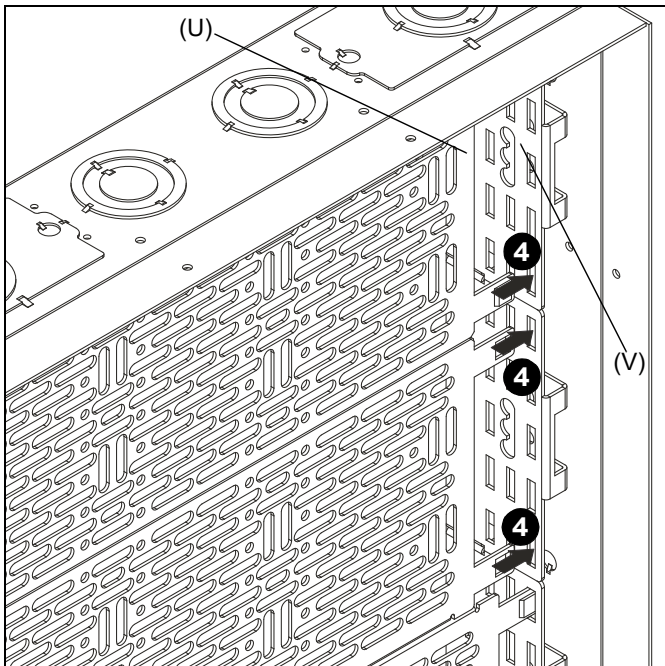

Figure 11
4. Slide LeverLock™ backplanes (U) into adapter (V) slots on one side of PAC527L box (A). (See Figure 11)